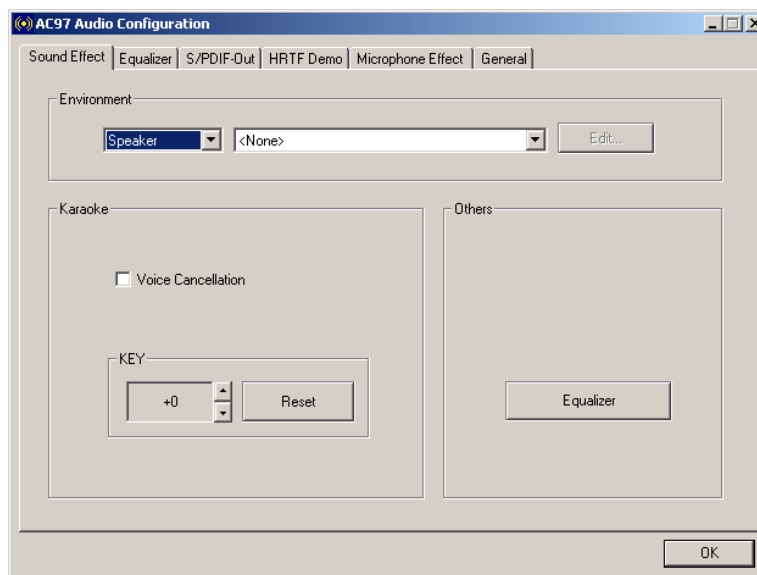

Figure H-3: Sound Effects Manager (ALC655)
Step 3: The sound effect manager appears (**Figure H-3**).
The Sound Effect Manager shown in **Figure H-3** may differ between systems.
The **Sound Effects Manager** enables configuration of the items listed below. To configure these items click the corresponding menu tab in the **Sound Effects Manager** (Figure H-3).